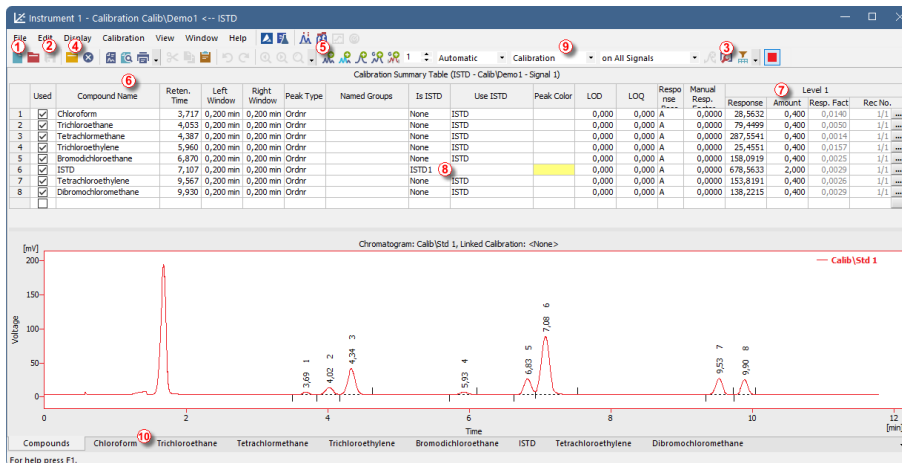

Fig. 13: The Calibration window - loaded standard
- To add color to a peak permanently, click the *View* button  in the right side of the *Results* tab. This will get you to the linked calibration file. There, in the *Calibration Summary Table*, find the *Peak Color* column (see **Fig. 13** on pg. **21**). In the row corresponding to the peak to be colored, select the desired color by clicking in the field and selecting the  icon. Pick the desired color and click *OK*. You will be asked to save the changes upon closing the *Calibration* window. Return to the *Chromatogram* window by using the  icon in the menu bar. The selected peak is now colored according to the color selected in the *Calibration* window.
- Use the *Open Standard*  icon (yellow) ④ to open the STD 1.PRM data file. The lower part of the *Calibration* window now displays the chromatogram of the calibration standard.
- Use the *Add All*  icon (blue) ⑤ to move all identified peaks to the Calibration Summary Table. The Table appears in the *Calibration* window, ready to be completed as shown on **Fig. 13** on pg. 21.
- As demonstrated in the Calibration Summary Table and the Chromatogram, individual peaks are now identified according to their retention times only. To label the peaks, click and edit the fields in the *Compound Name* column ⑥ to the names shown on **Fig. 13** on pg. 21. You may also set the color of a specific peak in the *Peak Color* column, for example, try to set the ISTD peak color to yellow. Note that the changes made will not immediately affect the current chromatogram.
- Fill the *Amount* column ⑦ with the concentration of the particular compounds. In this standard mixture, all compounds except for the peak number 6 (ISTD) have the amount of 0.4.
- Peak number 6 is marked as the ISTD peak. In the *Is ISTD* column change its type to ISTD1 ⑧ and then set its amount in the *Amount* column to 2.